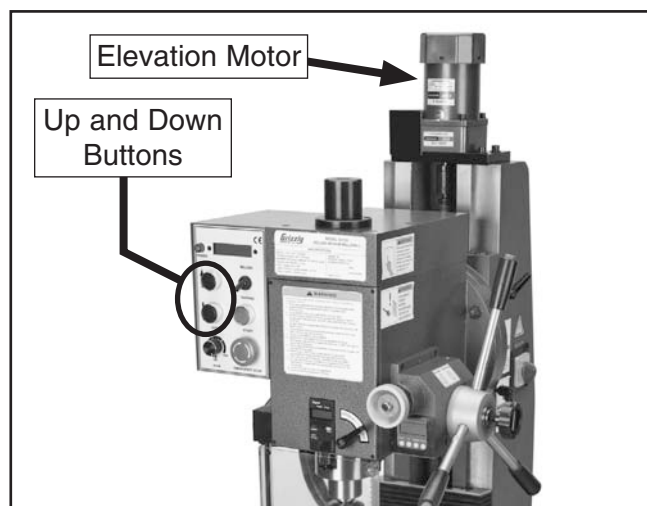

Figure 19. Z-axis control.
2. On the control panel push the UP or DOWN buttons (see **Figure 19**) to raise or lower the headstock with the elevation motor.